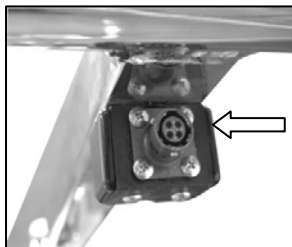

Figure 7: Transducer Cable Connection
STEP 8: (Figure 7) Plug in the transducer cable to the receptacle on the top end of the T-Boom.